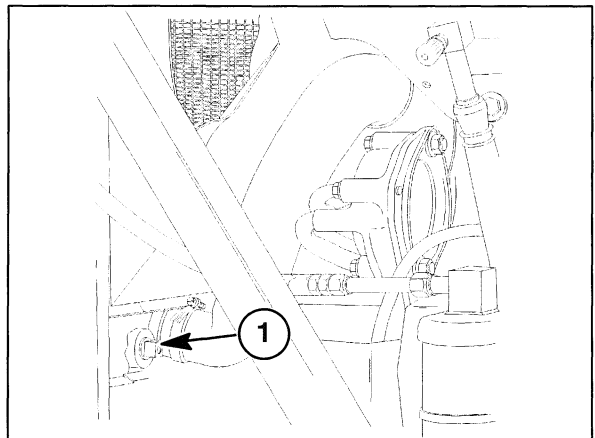
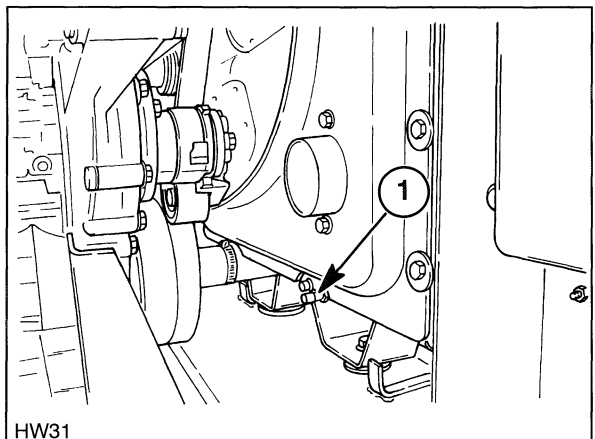

Figure 6-30
Figure 6-31
- Drain the cooling system using a suitable container, Figure 6-30, 4-cylinder engine, Figure 6-31, 6-cylinder engine. Remove the drain plug, 1 (HW300/320) or open the petcock (HW340) or heater hose to drain the anti-freeze from the system. Remove the radiator cap to speed up the draining process.